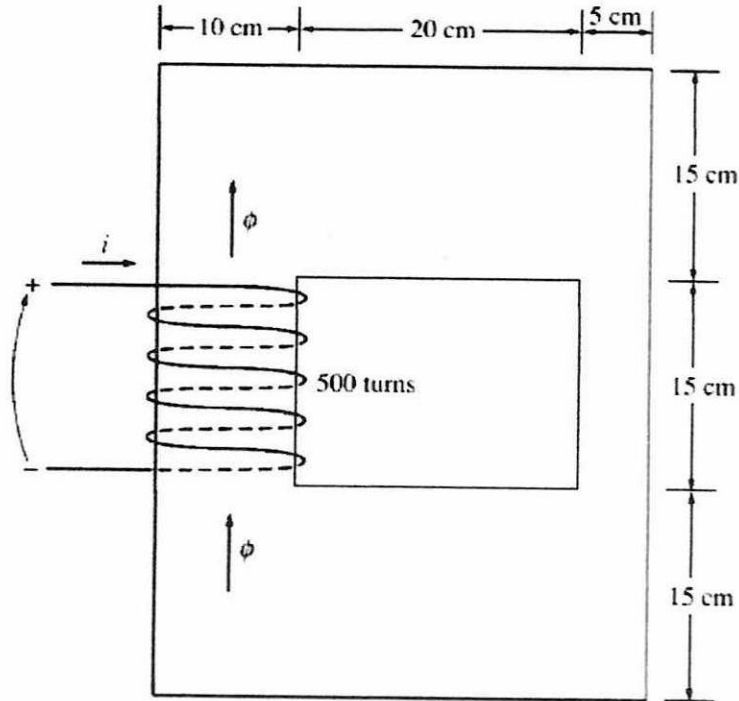

Figure Q1(a)
- Q1** (a) **Figure Q1(a)** depicts a ferromagnetic core with depth of 5 cm. The rest of dimensions of the core are as shown in the figure. Assume that the relative permeability of the core is 1200.
- (b) Explain **two (2)** importance of transformer in daily life. (2 marks)